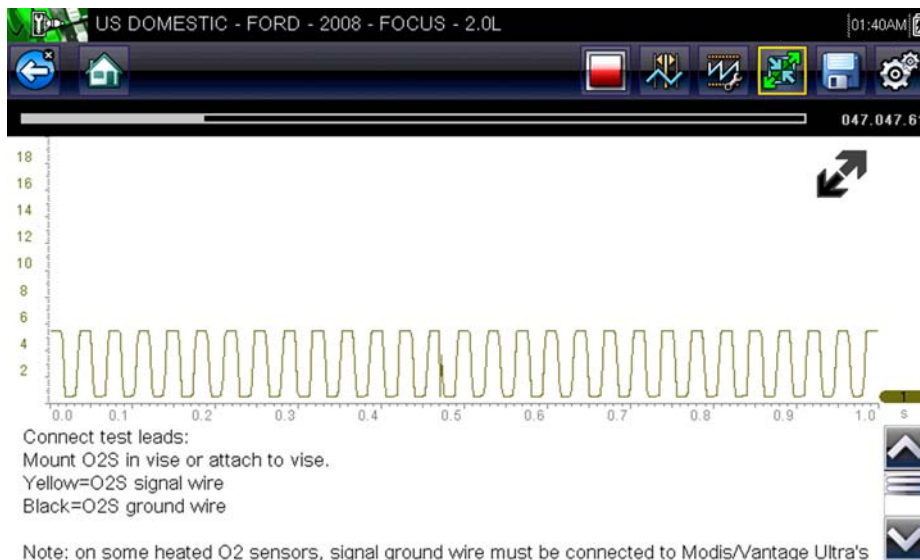

Figure 7-8 Test screen
3. Select an option from the Guided Component Tests list and the test screen displays (Figure 7-8).